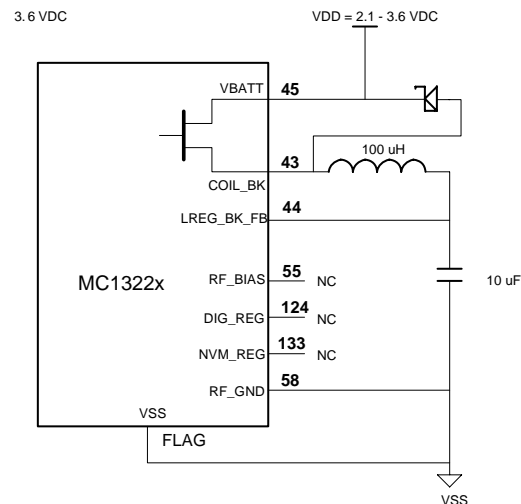

Figure 3-2. Varying VDD from 2.1 - 3.6 VDC Using Buck Regulator
For some battery-based applications, an optional, onboard buck regulator is provided to help maximize battery life. Figure 3-2 shows the configuration of the buck regulator. Onboard MOSFETs are used to switch an external inductor and capacitor as a synchronous-rectifier regulator when enabled. The buck regulator drops the higher battery voltage to about 2.0Vdc that is applied to the onboard linear regulators. This allows lower net current from the battery to maximize the life of the battery.
- Device start-up from reset/POR - The circuit configuration of Figure 3-2 presents a conundrum for start-up: the NVM must be powered to allow the boot process to read the NVM, load RAM, and start executing from RAM. However, the default for power supply configuration is VBATT selected (PWR\_SOURCE[1:0] = 0b00), where LREG\_BK\_FB is normally tied directly to the NVM regulator input. This allows the regulator to be enabled to access the NVM.